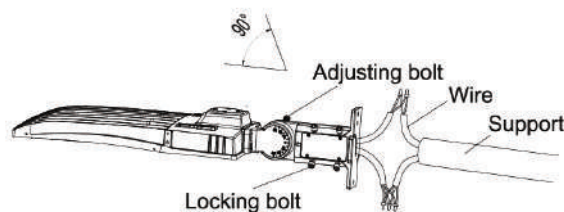

Figure 25
Step 2: Loosen the four bolts on A&D bracket, connect the wires correctly, and pull the wires into the poles. (Figure 25)
Step 3: Place the bracket into the pole and lock the four bolts. (Figure 25)
Notice: Adjustable angle is 0-90°(Figure 25)